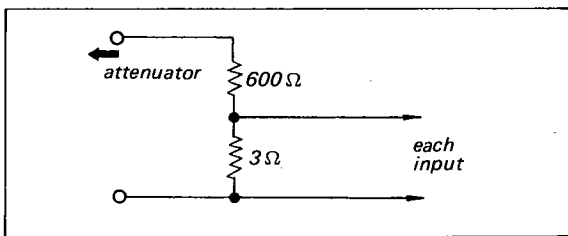

Fig. 3-1. 46 dB pad
Note: 1. When measuring the sensitivity of the PHONO-1 LOW LEVEL input, insert a 46 dB pad (shown in Fig. 3-1.) between the attenuator and input terminal. The input sensitivity may be regarded as the reading on the attenuator plus the pad-loss.
* The PHONO-1 IMPEDANCE SELECTOR switch should be set to 30 Ω and an additional attenuator pad (See Fig. 3-1.) used between the main attenuator and input jack.